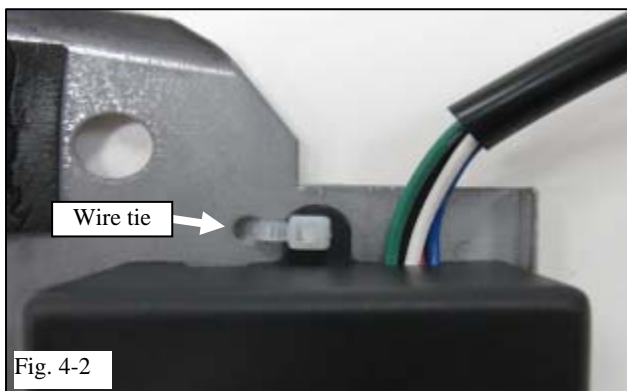

Fig. 4-2
(1) DO NOT block the mounting hole with foam tape.
(2) Trim tape as needed.
(3) Secure the ECU to the bracket using the top two mounting holes with one (1) small wire tie as shown. (Fig. 4-2)